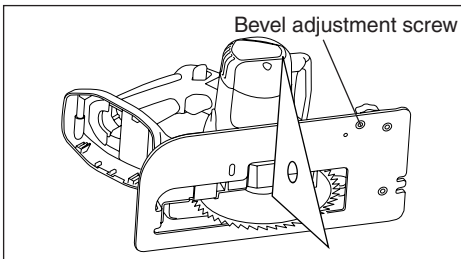

Fig. 7
- To set the bevel of cut at 90 degree, use a triangle. To have fine bevel adjustment, use the bevel adjustment screw on the base. (See Fig.7)